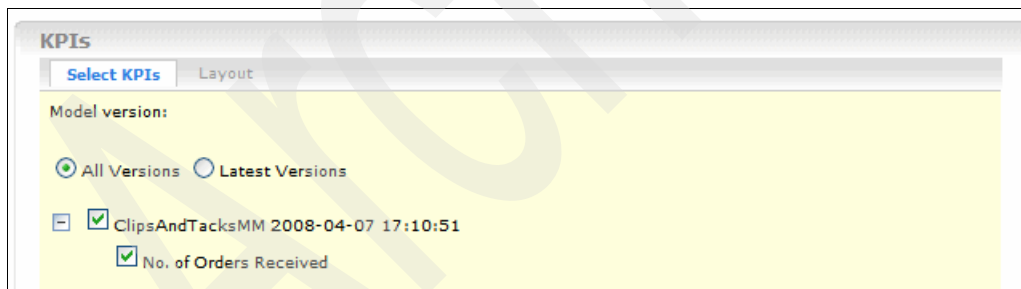

Figure 6-69 Selecting No. of Orders Received
7. Click the **Select KPIs** tab (Figure 6-69). Select the **ClipsAndTacksMM** and **No. of Orders Received** check boxes. Then click **OK**.